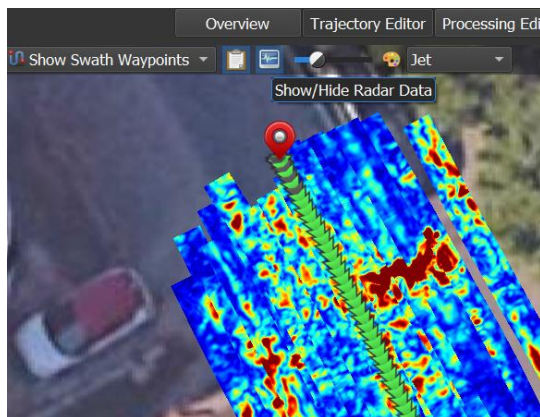

Fig. 52 How to show the tomography on the Trajectory editor
1. Press the  icon at the top left corner of the coverage area map (Fig. 52), to show the tomography map in the trajectory tab.